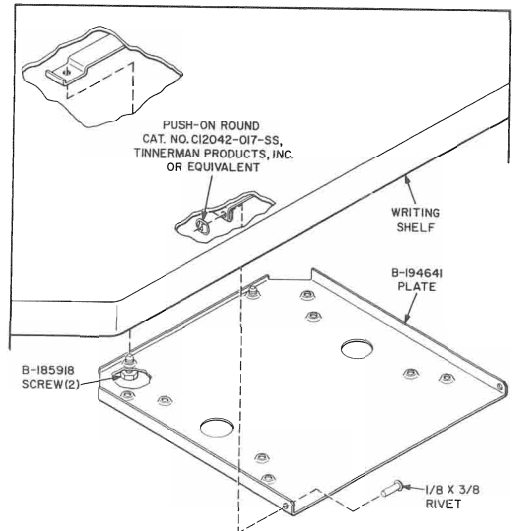

Fig. 2—KS-19340, List 55 Subscriber Set Mounting Kit
3.12 The writing shelf is provided with brackets for accepting the KS-19340, List 55 mounting kit. When required, order kit separately and install in accordance with Fig. 2. All hardware is furnished as part of the kit.